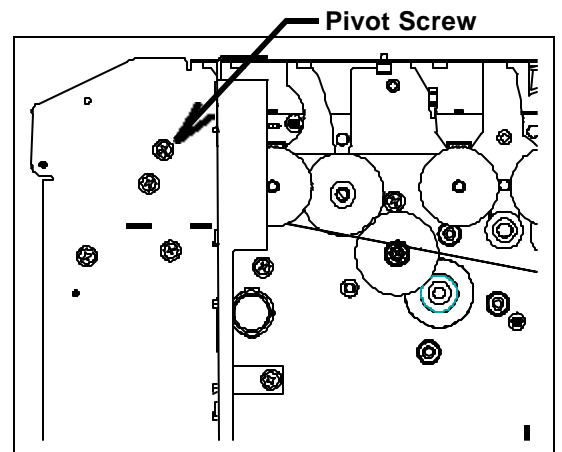

Figure 2
7. With two screwdrivers (one on each side of the Top Roller Set), remove (1) Pivot Screw (Figures 2 and 3), then remove pivot shaft, pivot spring (**Note orientation of spring for reinstallation**), and Top Roller Set.
8. Reinstall the new Top Roller Set, pivot shaft, pivot spring and (2) Pivot Screws.